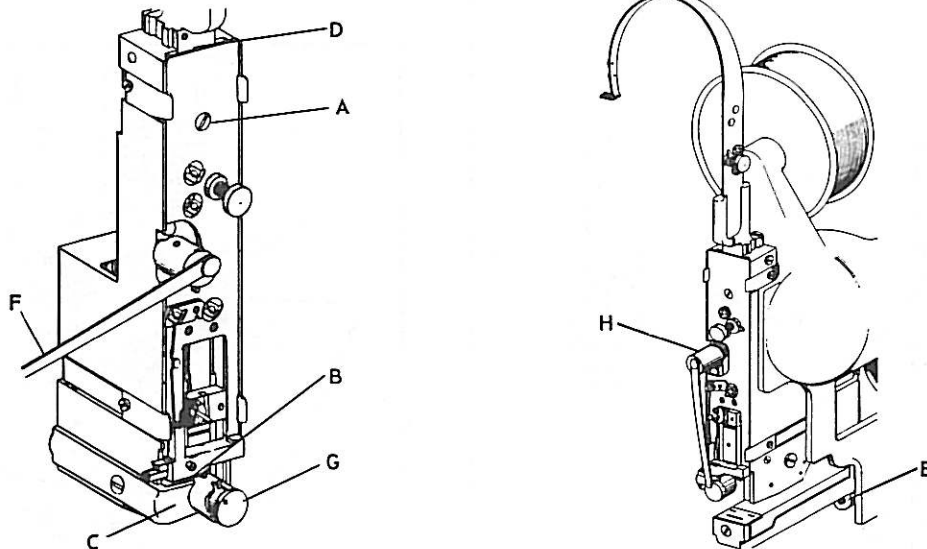

Figure 7
I To adjust the face plate on Models K*, 400, 500, 600, 650, 700: (Figure 7)
2. Release the swivel operating springs (Index F, Figure 7) from the swivels, swing them to the left and let them hang freely.
3. Remove the swivel (Index G, Figure 7).
If for some reason the swivel operating cam (Index H, Figure 7) was removed from the head, see CAUTION note in Figure 29, page 23 before re-assembling and operating stitcher under power.